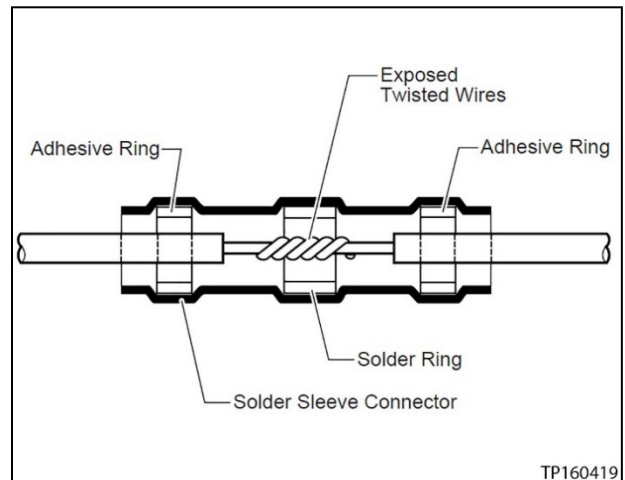

Figure 12
10. Slide the red solder sleeve over the twisted pair and position it so that the solder ring is over the two twisted wires as shown in Figure 12.